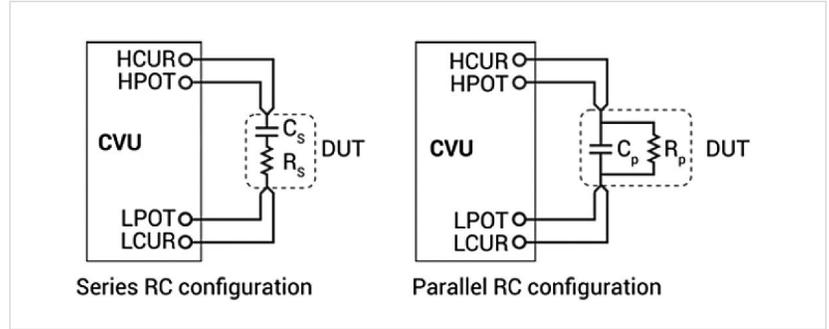

Figure 3. Simplified measurement models
Typical models of a measurement DUT are usually a series or parallel resistance-capacitance (RC) circuit. As shown in the simplified models in Figure 3, the CVU can measure the DUT as a series configuration ($R_S C_S$) or as a parallel configuration ($R_P C_P$).